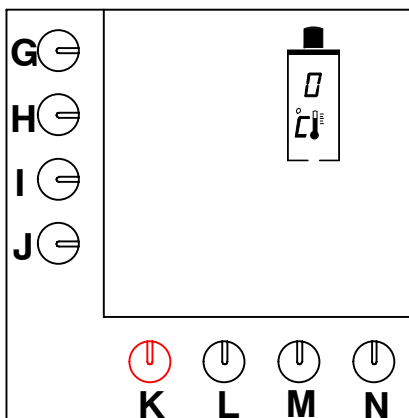

Fig. 6 Activating the HW system
The boiler is filled and the "Automatic Boiling Point Determination Programme" (duration: about 30 minutes) is activated. This calibration programme determines the boiling point of water at the place where the machine is actually used. The boiling point partly depends on the local atmospheric pressure and at sea level this will be approximately 100 °C, whereas at a height of 2,000 m the boiling point will be as low as about 97 °C. This boiling point will be given on the display (fig. 6 ). The system will itself determine the optimum temperature based on the measured boiling point; this is always approximately 4°C below the boiling point. The water temperature will be displayed after pressing the activating key (L.).
- Figure 6 appears on the display.